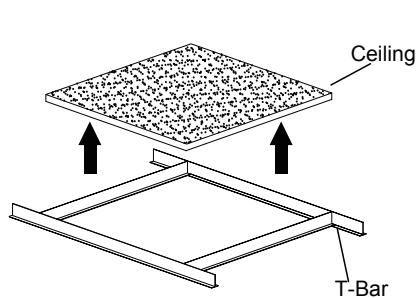

Figure1
2. Remove the ceiling(s) at an appropriate location where the light fixture is to be installed. See Figure1.